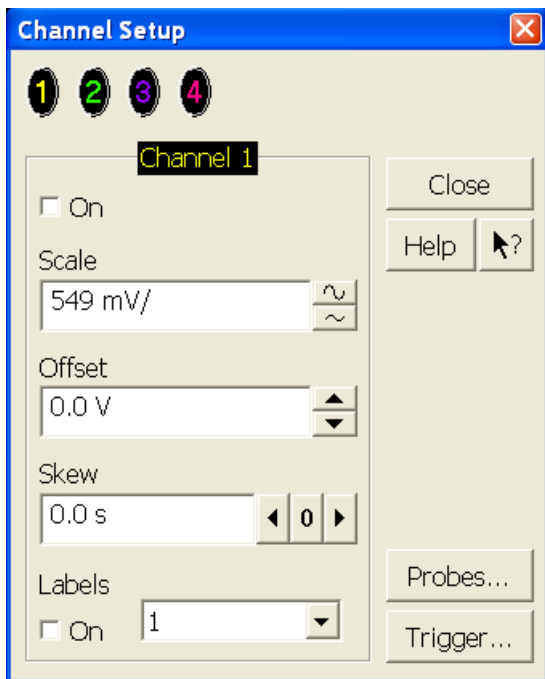

Figure 48 Channel Dialog Box
- 2 In the Channel Setup dialog box, select the Probes... button, as shown in Figure 48.